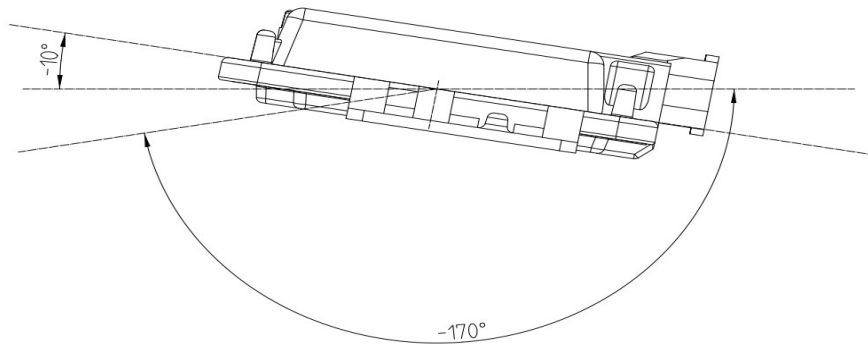
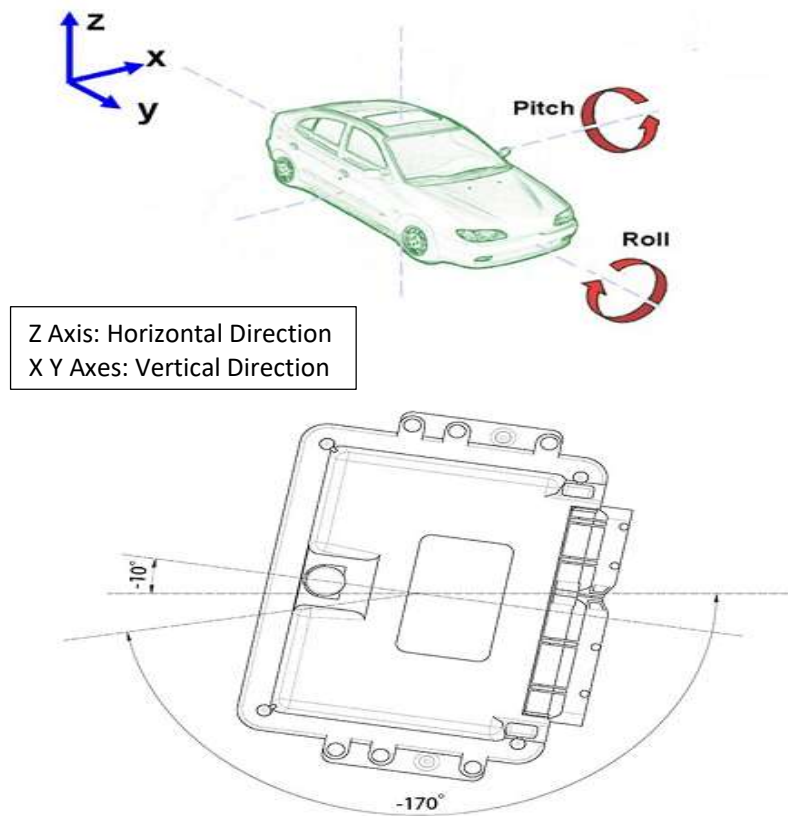

Figure 9 Horizontal installation angle
Figure 10 Vertical installation angle
- 7) The CCU should be installed with the connector facing downward in both horizontal and vertical positions, maintaining a certain angle to prevent water from flowing in from the connector. In the horizontal direction, the recommended installation angle is -170° to -10°, as shown in Figure 9 below. In the vertical direction, the recommended installation angle is -170°~ -10°, as shown in Figure 10 below.